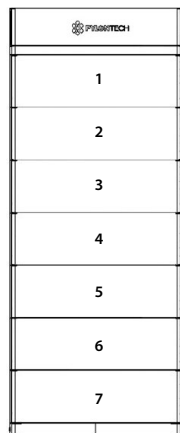

Fig. 2.5 - Force-H3
- Each Status LED (1~7) represents one individual battery module from number 1 (the one right beneath the control module) to number 7 (the one next to the base), as shown in Fig. 2.5.